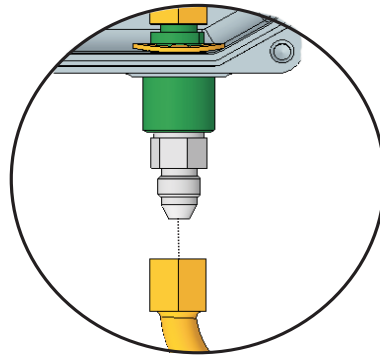

Figure 5-2. High-Pressure Nitrogen Tubing Location, Close Up
1. Disconnect the high-pressure nitrogen tubing from the XV Control System (see Figure 5-2).